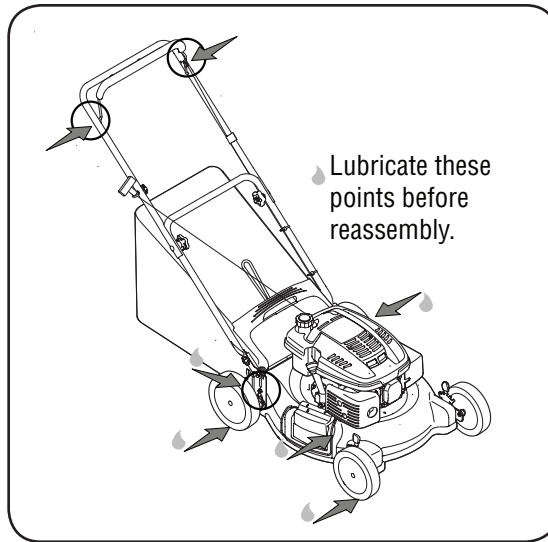

Figure 5-1
1. Lubricate the pivot points on the blade control handle at least once a season with light oil. The blade control must operate freely in both directions. See Figure 5-1.
3. Lubricate the torsion spring and pivot points periodically with light oil to prevent rust. See Figure 5-1.
3. Remove the bolt and the blade bell support which hold the blade and the blade adapter to the engine crankshaft. See Figure 5-1.